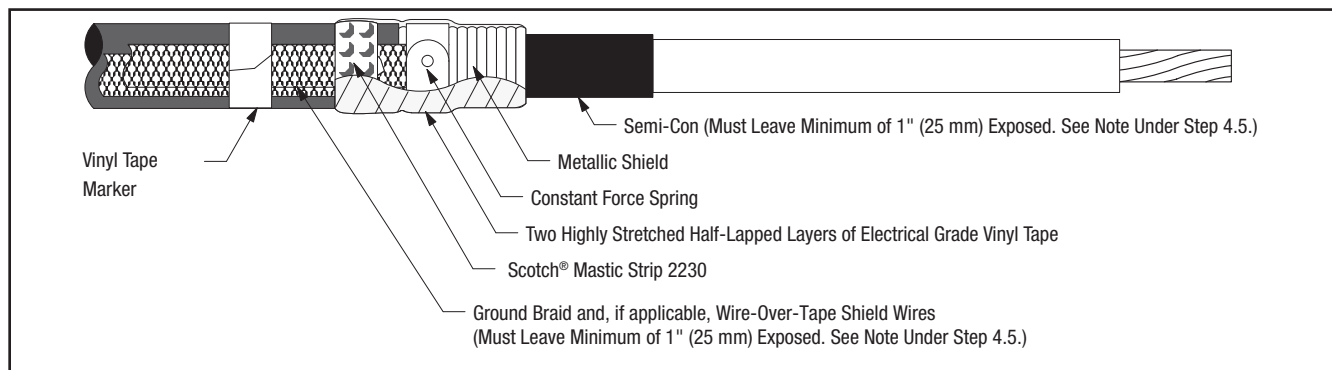

Figure 7
- 4.5 Wrap two highly stretched half-lapped layers of electrical grade vinyl tape around mastic seal strips, constant force spring and exposed metallic shield (Figure 7). **Be sure to cover all exposed mastic.**